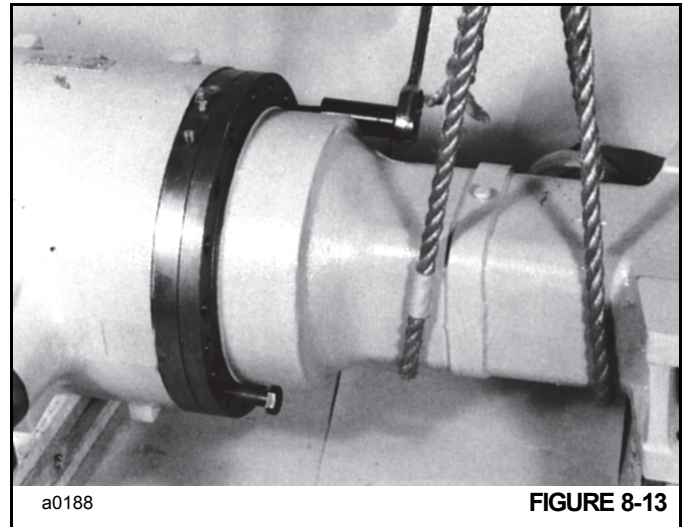

FIGURE 8-13
- b. Jack the axle arm off of the drive head, using the drive head securing bolts Figure 8-13. Remove all traces of gasket material from the mating surfaces.